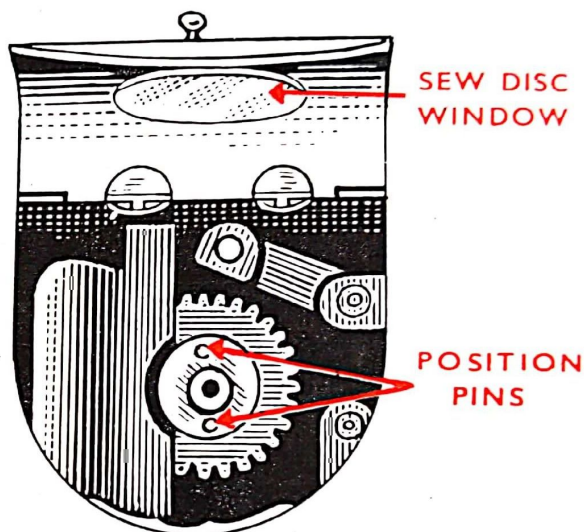

FIG. 33
4. Set L.M.R. control to position R. Open the Sew-Disc window (Fig. 33) and insert the Sew-Disc so that it fits on to the pins (Fig. 33). Close the window.